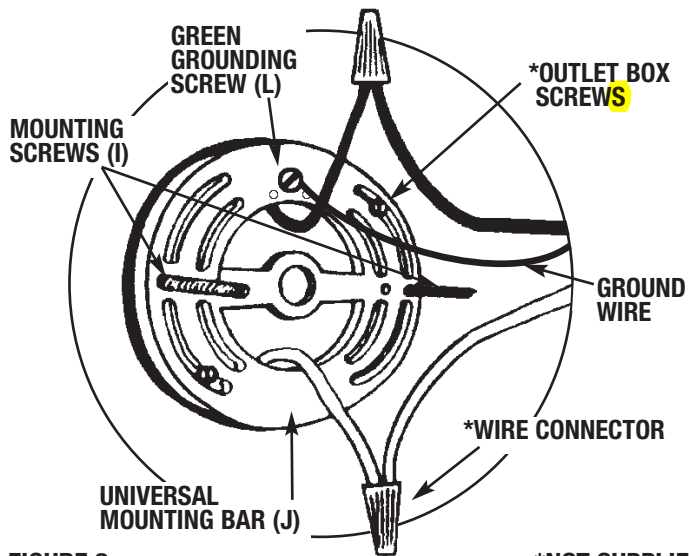

FIGURE 2
**GROUNDING INSTRUCTIONS:** The green grounding screw (L) is to be inserted into the hole with two raised dimples provided on the universal mounting bar (J). Wrap the ground wire from the fixture (if supplied) and the ground wire from the outlet box (bare metal or green insulated wire) around the green grounding screw (L) on the universal mounting bar (J). If uninsulated ground wire is on the universal mounting bar, connect the ground wire from the fixture (if supplied) and the outlet box to it using a small wire connector (not supplied) (See Figure 2). **NEVER CONNECT GROUND WIRE TO BLACK OR WHITE POWER SUPPLY WIRES.**